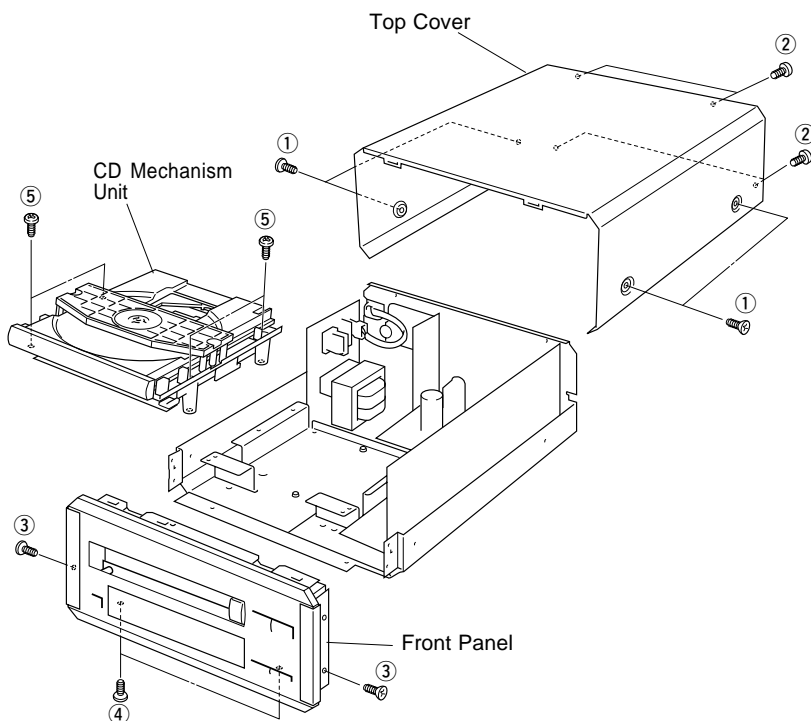

Fig. 1
- a. Remove 4 screws (①) and 4 screws (②) in Fig. 1.
- b. Remove 2 (③) screws and 2 screws (④) in Fig. 1.
- b. Remove 4 screws (⑤) in Fig. 1.